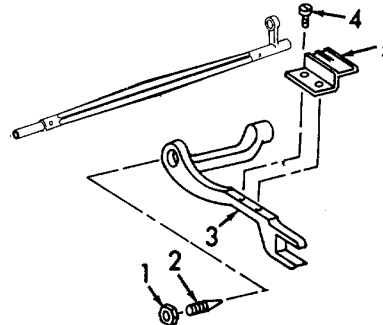

Figure 6-49. Feed Bar, Removal.
- (16) Remove both shaft centering screws (2).
- (17) Rotate the shaft (5) slightly to remove the shaft.
- (18) If the drive crank (6) is to be removed, slightly score the shaft with a scribing tool to mark the location and position of the crank.
- (19) Loosen the lockscrew (7) and remove the drive crank (6).
- (20) Refer to Figure 6-49. Loosen both locknuts (1) on the feed bar centering screws (2).
- (21) Remove the feed bar centering screws (2) and the feed bar (3).
- (22) Remove two screws (4) and feed dog (5).